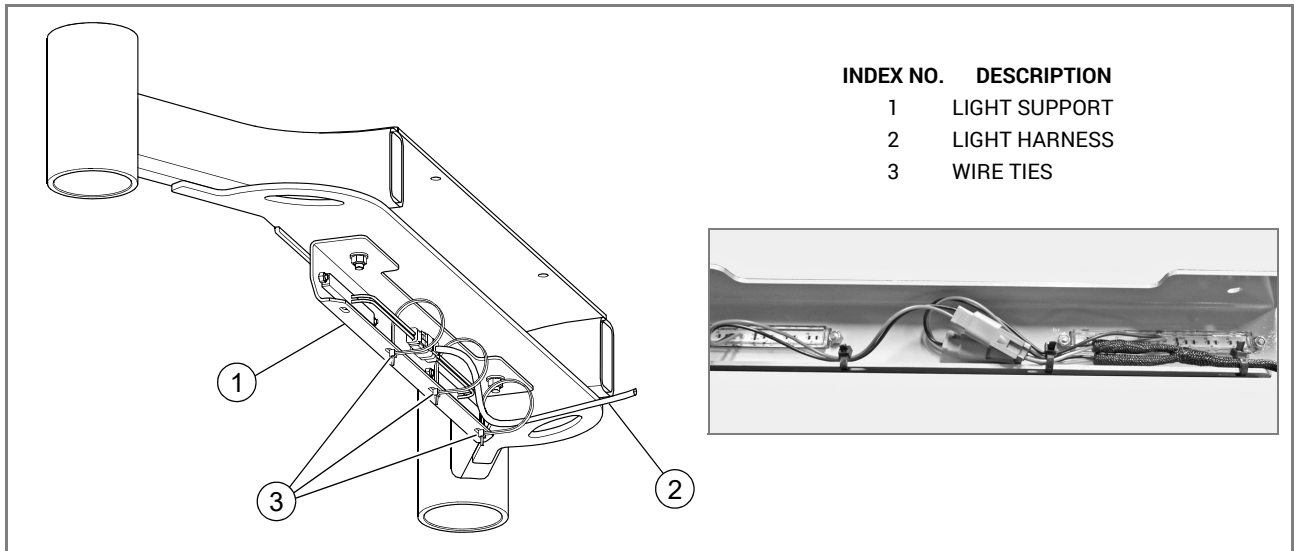

FIG. 4
5. Secure the light wires and light harness to the light support using the wire ties. FIG. 4